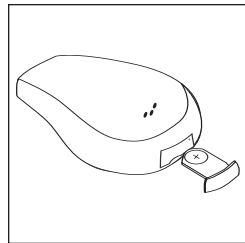

Figure 4
- Remove the battery tray containing the battery from its packaging. Insert the battery tray in the rear of the lid assembly, as shown in Figure 4.
3. Slide out the battery tray from the rear of the lid, as shown in Figure 4. Remove and discard the used battery.
4. Insert replacement battery with the “+” side of the battery up, as seen in Figure 4.